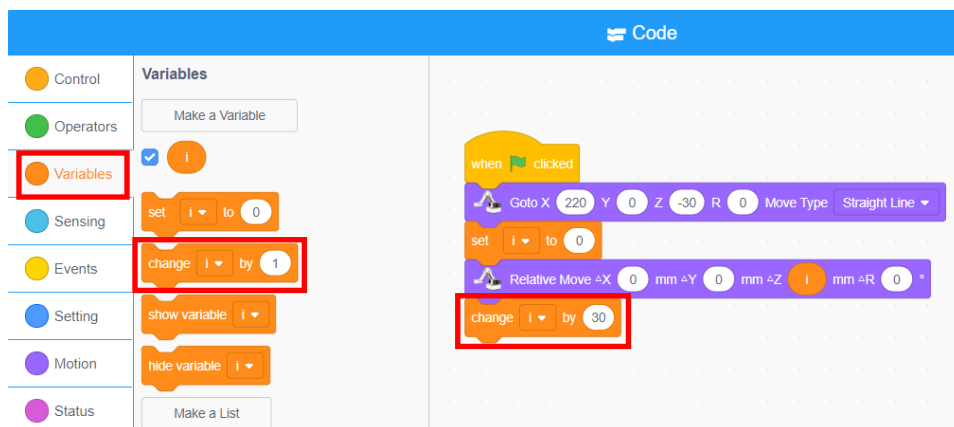

Figure 2.9 Block of increasing the variable
Step 8: Increase the variable i. Each time, the robotic arm moves upward by the same distance. If the robotic arm moves upward by 30mm, the variable i should be increased by 30. Click the "Variables" tab, drag the "Increase (i) by 1" block to the code area, and change the increment of the variable to 30, as shown in Figure 2.9.